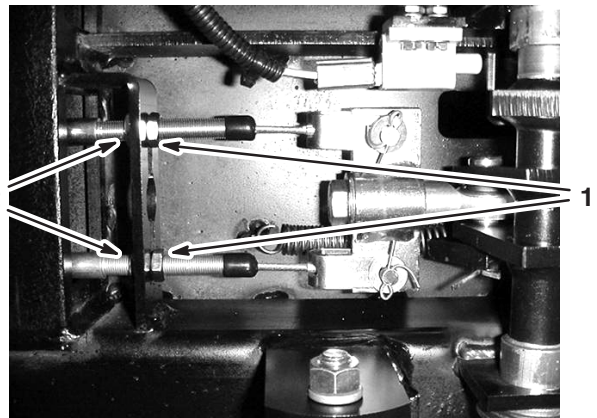

Figure 47
- Loosen the front nuts on the brake cables under the front end of the sprayer (Fig. 47).
- Tighten the rear nuts equally until the brake pedal moves between 1/2 to 1 inch (1 to 2 cm) before you feel resistance (Fig. 47).